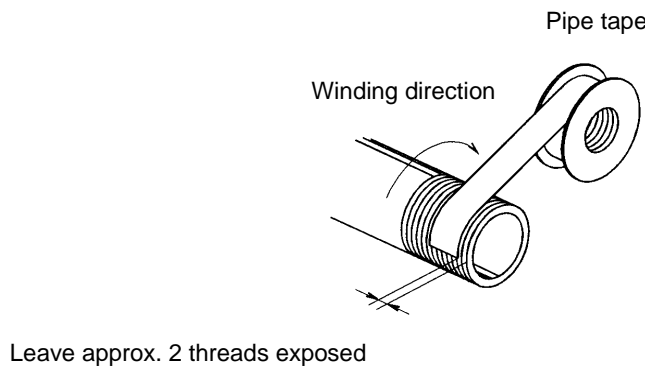

Fig. 8
- b) When attaching piping or fittings to the ports, ensure that chips from the pipe threads or sealing material do not enter the piping. When pipe tape is used, leave 1.5 to 2 threads exposed at the end of the pipe. (See Fig. 8)